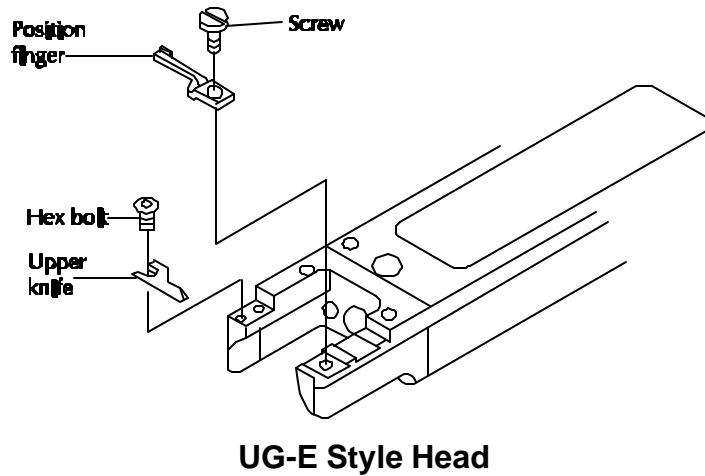

Figure 1
- Using 2 mm Allen Wrench, **remove** Upper Knife hex bolt. See Figure 1.